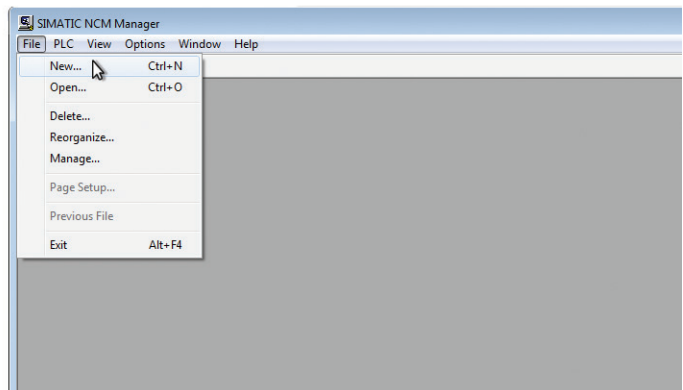
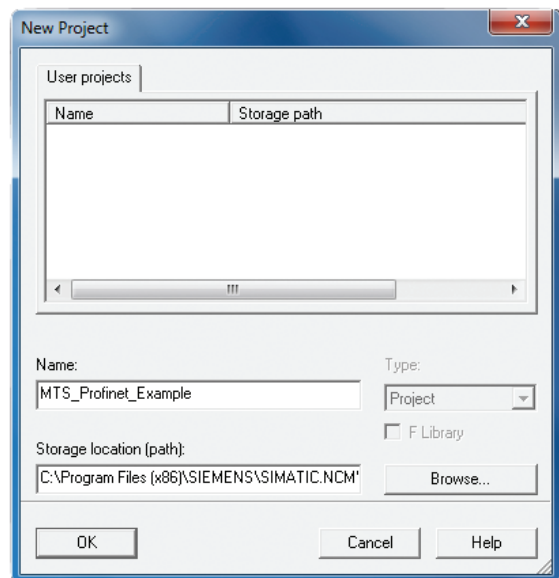

Fig. 23: Create a new project (source: Siemens)
Fig. 24: Assign a project name and a memory location (source: Siemens)
2. Create a new project under “File” → “New” (Fig. 23). Subsequently, select the “Name” and the “Path” of the project file (Fig. 24). Press “OK” to confirm your entry.